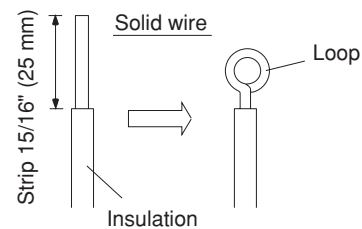

Fig. 27
- (1) Cut the wire end with a cutting pliers, then strip the insulation to expose the solid wire about 15/16" (25 mm). (Fig. 27)
- (2) Using a screwdriver, remove the terminal screw(s) on the terminal plate.
- (3) Using the pliers, bend the solid wire to form a loop suitable for the terminal screw.
- (4) Shape the loop wire properly, place it on the terminal plate and fix it securely with the removed terminal screw using a screwdriver.